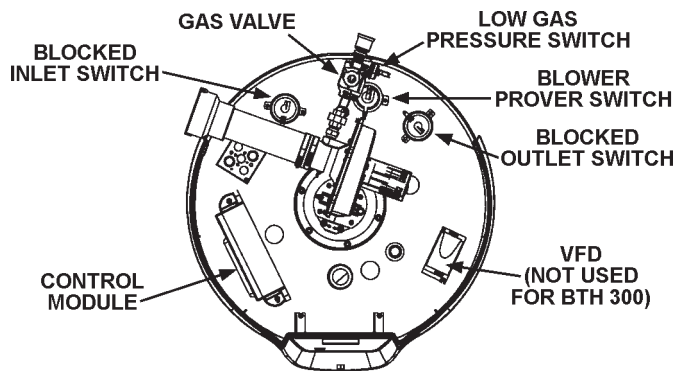

FIGURE 13.
contacts are normally open. When the fan increases the pressure in the burner, the pressure switch will allow the electrical contacts to close. The pressure switch is connected to the burner tap by a piece of tygon tubing. This tubing must be connected in order for the switch to change the electrical contacts. The controller requires that the electrical contacts on this air flow switch be open before it will allow the blower to come on. See Figure 13.
The Blocked Outlet Prover Switch is set up to shut the unit off when a build-up of positive pressure in the exhaust vent pipe occurs. This switch is a positive pressure switch that requires an increase in pressure to change the electrical contacts from normally closed to open. When this switch prevents the unit from igniting, most likely the exhaust is blocked by some means. Check to see if the condensate is allowed to flow freely from the exhaust elbow and for obstructions in the exhaust venting and exhaust vent terminal. See Figure 13.
The Blocked Inlet Prover Switch is set up to shut the unit off when a build-up of negative pressure in the intake vent pipe occurs. This switch is a negative pressure switch that requires an increase in negative pressure to change the electrical contacts from normally closed to open. The switch is connected to the pressure tap on the flange connected to the inlet of the blower. When this switch prevents the unit from igniting, most likely the intake is blocked by some means. Check to see if there is no more than seventy (70) equivalent feet (24.8m) of four inch PVC vent pipe on the intake. Also verify that the intake and intake vent terminal is free of obstructions that may prevent air from entering the unit. See Figure 13.
The Low Gas Switch (LGS) is a single-pole, normally open pressure switch that will close its contacts when a rising pressure of 4.6 in. W.C. (1.25 Kpa) is encountered. The contacts will open when the pressure falls below the fixed set point of 4.6 in. W.C. (1.25 Kpa) The LGS monitors the gas supply pressure to the heater. If the gas supply falls below 4.6 in. W.C. (1.25 Kpa), the main burner is extinguished (if heater is running) or the heater will not start up. **NOTE: LOW GAS SWITCH IS LOCATED ON INLET SIDE OF GAS VALVE.** See Figure 13.